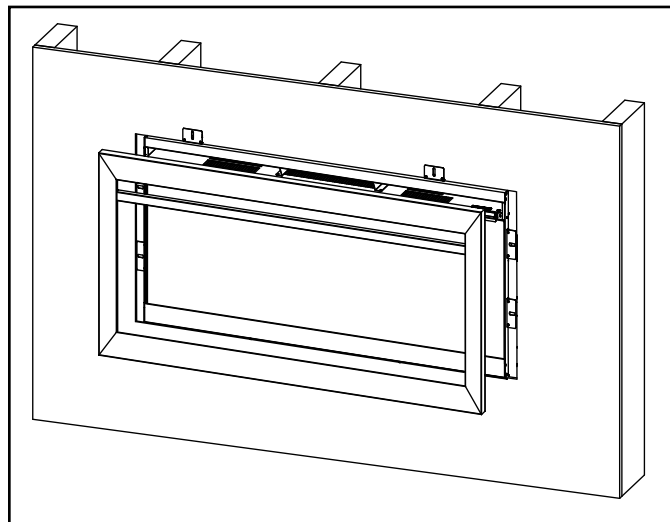
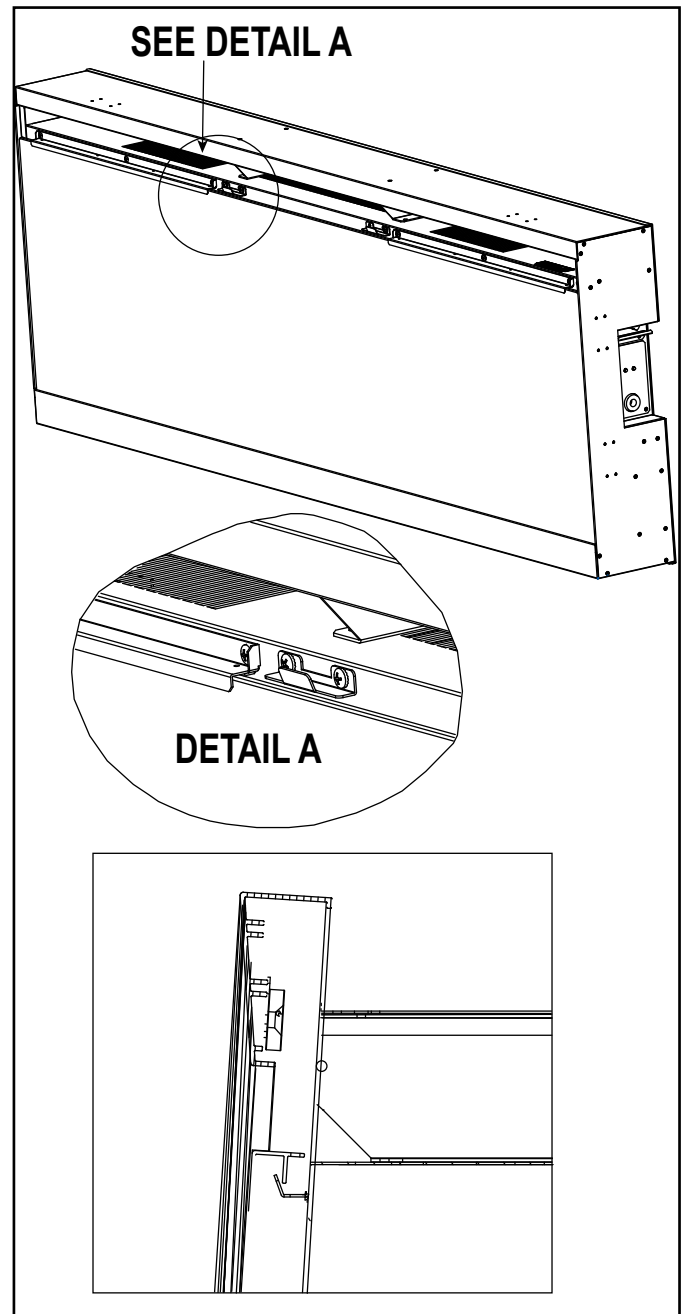

Figure 4.12 Align the Front Trim with the Appliance
Figure 4.13 Install Front Trim
4. Install the glass by placing the bottom edge into the channel on the appliance. Tilt the top of the glass back until it contacts the appliance. Secure the top edge of the glass using the glass attachment brackets with three (3) ST4x8 screws per bracket. The number of attachment brackets varies by appliance size.
5. With the glass installed on the appliance, the front trim may be installed. Line up the front trim with the tabs on the appliance. Engage the front trim with the tabs. See Figure 4.12 and Figure 4.13.